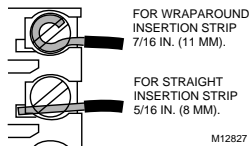

Fig. 4. Proper wiring technique.
- Run a low voltage wire from the humidifier (and dehumidifier or ventilator for H1008D) and equipment to the control terminals. See Fig. 5-10. Use either straight in or wraparound wiring connections. See Fig. 4.